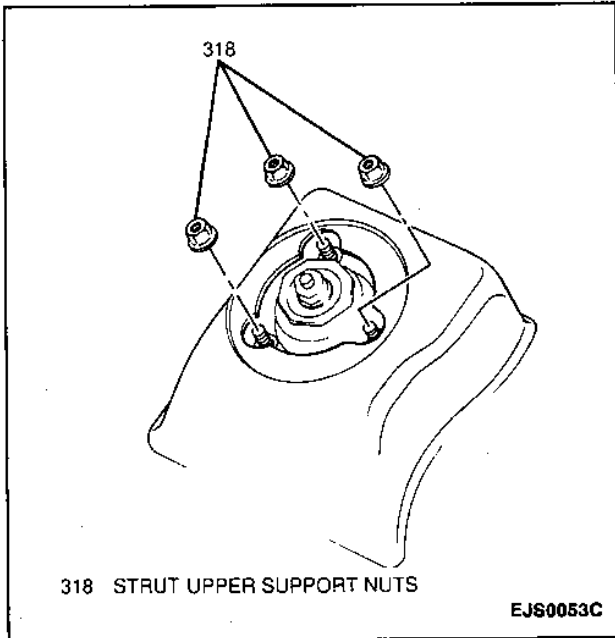

Figure 5—Strut Upper Support Nuts
8. Three strut upper support nuts (Figure 5).
1. Strut to vehicle; secure with three support nuts (Figure 5). Do not tighten fully.